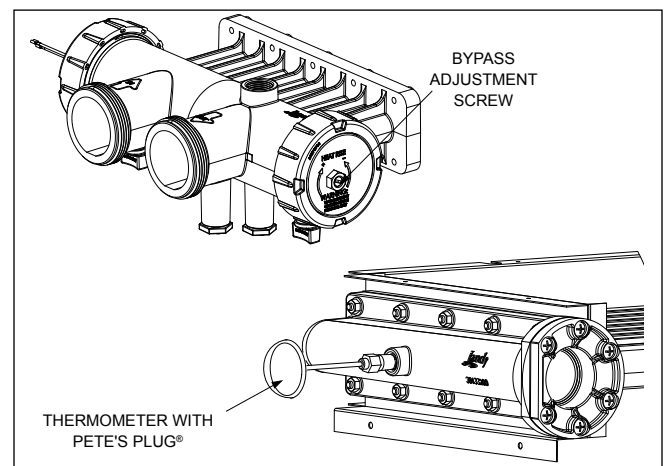

Figure 23. Temperature Rise Measurement
Before checking the temperature rise, make sure that the pool filter is clean and that gas supply and manifold pressures are correct. If necessary, clean all components of the filter system. Temperature rise is measured in the return header of the Legacy. To measure the temperature rise, turn off the filter pump and remove the plastic plug protruding through the cabinet on the return header side of the heater. See Figure 23. With the plug removed, install the special thread adapter and Pete's Plug® fitting and insert a pocket thermometer. A temperature rise measurement kit is available through your Jandy distributor. See Section 11 of this manual for the correct kit number.
6. Locate the bypass adjustment screw on the right-hand side of the header, see Figure 23. Loosen the nut so that the screw can be adjusted. A slight water leak past the nut may be expected. Turn the screw counterclockwise to decrease the temperature rise, and clockwise to increase the temperature rise as needed to achieve the ranges in Table 6. After the adjustment, tighten the nut so that no leaks occur.